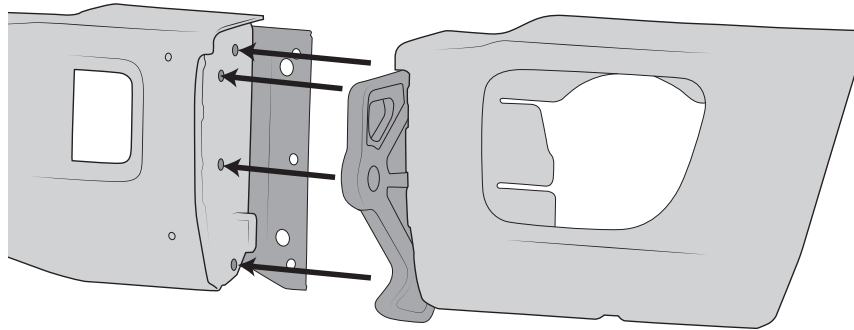

Figure 15
2. Lift the corner assembly onto the bumper center section inserting the four bolts from previous step into the corresponding holes on the bumper center section (fig. 15). Secure with M12 nuts and hand tighten.